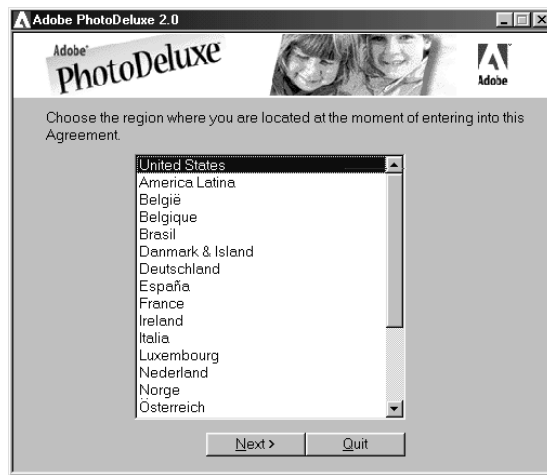

Figure 13: Language selection
3. On the command line, type [D:\AUTORUN.EXE] and click on 'OK'. A screen as in Figure 13 is displayed.